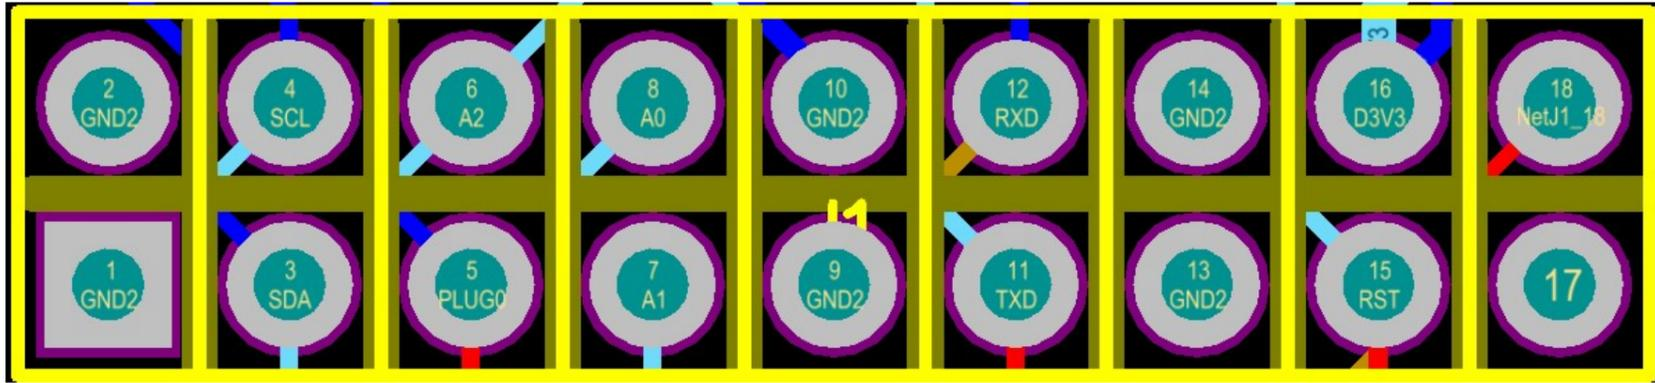

Fig 8. Each Pin Definition of IO
3. IO Mouth: IO is composed of 2X9 pitch 2.0 PHSD 90° in-line double row. The definition of each pin as below Fig 8: